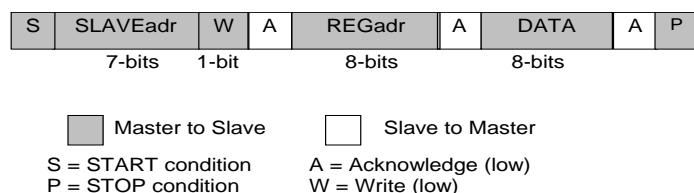
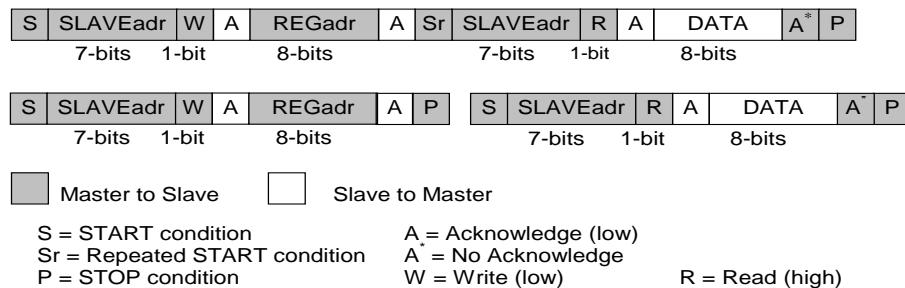

Figure 7: I²C Byte Write (SDA Line)
Figure 8: I²C Byte Read (SDA Line) Examples
The I²C bus is monitored for a valid slave address whenever the interface is enabled. It responds immediately when it receives its own slave address. The acknowledge is done by pulling the SDA line low during the following clock cycle (white blocks marked with A in Figure 7 and Figure 8).
The protocol for a register write from master to slave consists of a START condition, a slave address with read/write bit, and the eight-bit register address followed by eight bits of data, terminated by a STOP condition. DA9141-A responds to all bytes with acknowledge (A), see Figure 7.
with a repeated START, or alternatively a second START, condition. After receiving the data, the host sends no acknowledge (A^*) and terminates the transmission with a STOP condition, see Figure 8.